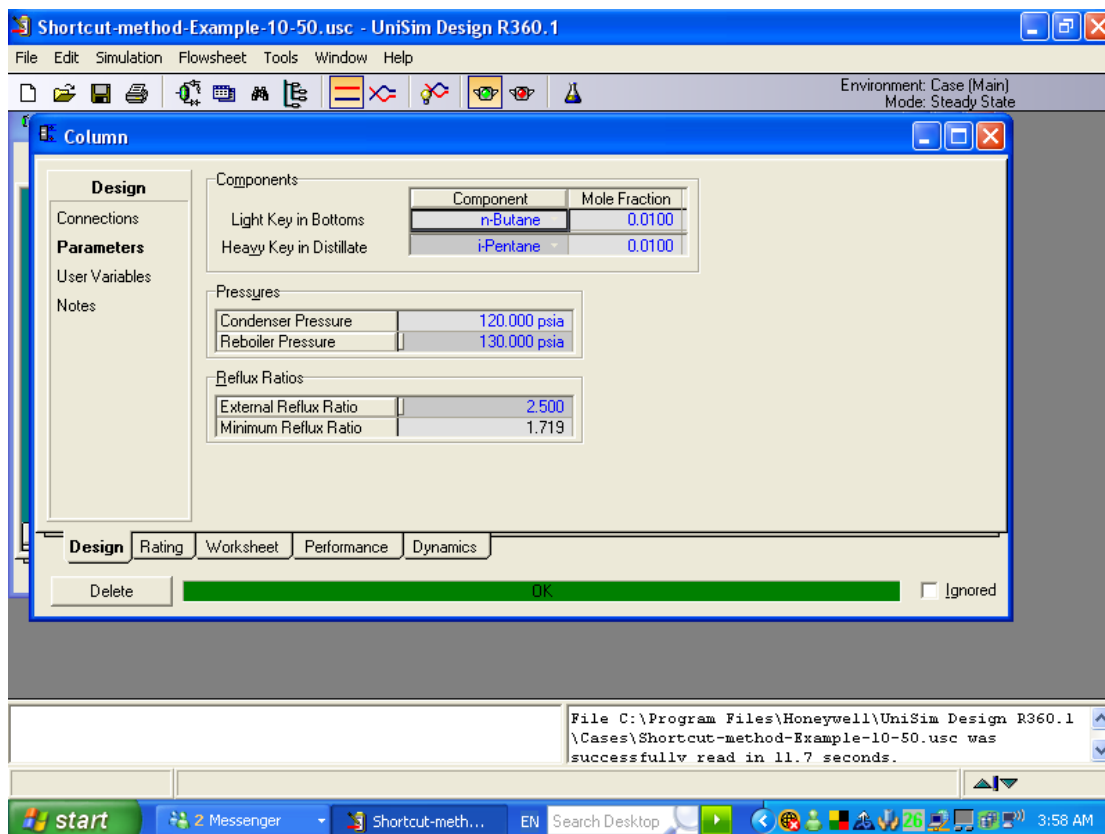

Figure K-20. Snapshot of Column window with required Parameters.
Step 20. Next, select **Parameters** from the **Design** window. Select Light Key in Component name from the list in Component “**Light key in Bottoms**” (e.g. n-Butane) and enter its value under Mole fraction label. Select Heavy Key component name from the list in Component “**Heavy Key in Distillate**” (e.g. i-Pentane) and enter its corresponding value under Mole fraction label. Enter Condenser and Reboiler Pressure (*NB: The value of Reboiler pressure is greater than the value of Condenser pressure*). Enter the value of External Reflux Ratio. This gives a highlighted green comment “**OK**” as shown in Figure K-20.